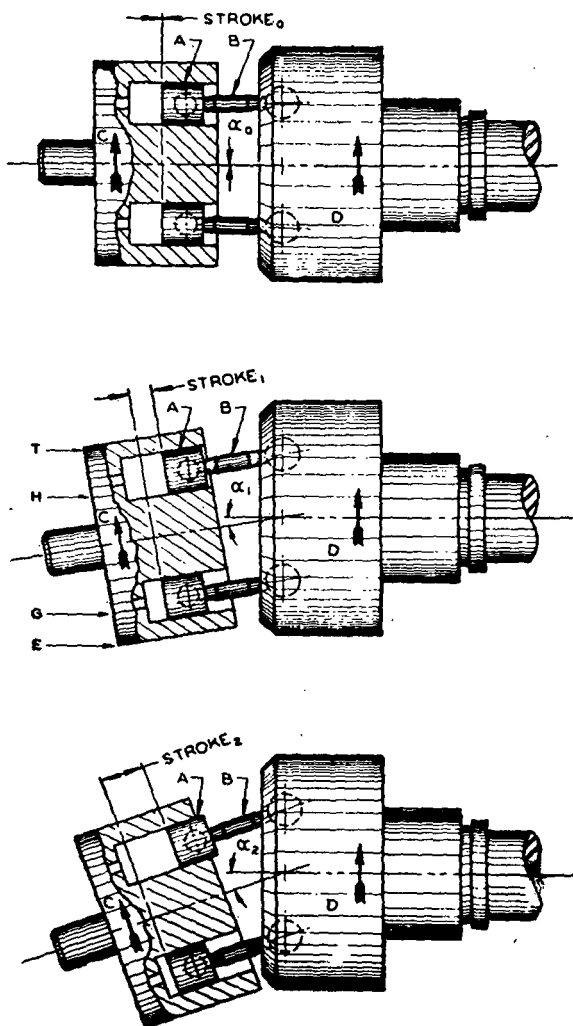

FIGURE 23.—A-end pump.
(3) *A-end pump* (figs. 20, 21, 23, and 25).—The A-end pump consists of a flange and shaft, a cylinder block connected to the flange by a universal link, and pistons and connecting rods. The pistons are retained in cylinders in the cylinder block and are connected to the flange by connecting rods. The flange and shaft are rotated at constant speed. Through the universal link connection (not shown in fig. 23), the cylinder block rotates with the flange. The angle between the axis of rotation of the cylinder block and that of the flange can be varied. If there is no angle between the two, then, in the course of rotation, the pistons will not move either inward or outward in their cylinders. If there is an angle, then each piston in its cylinder will move inward during one-half revolution, and outward during the next. Each piston in its cylinder, during the course of rotation, comes opposite two ports. Depending upon whether the piston is moving inward or outward in its cylinder as it